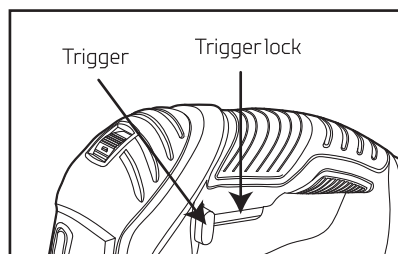

Figure 4
3. Squeeze the Trigger [17] to turn on the Jigsaw. If operating the Jigsaw for an extended period of time, press the Trigger Lock to lock the Trigger in its "ON" position. See Figure 4, right.